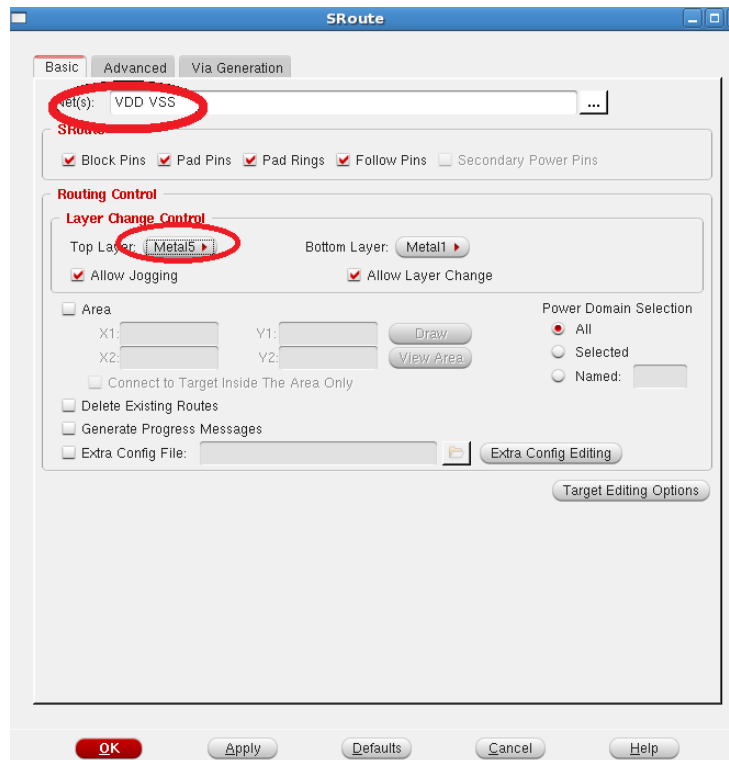

Figure 8 Supply Rails for Cells
9. Gates are placed in the layout row-by-row. We need to provide supply rails for them. **Route→Special Route**. Key in parameters as shown in Figure 8.